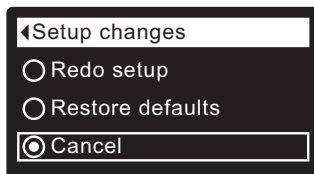

FIG. 103
7. Press the SELECT (O) button to display the Setup changes menu (See Figure 103).
8. If the desired option already has a dot next to it (See Figure 103), go to Step 9. Otherwise, press the DOWN (▼) or UP (▲) buttons to scroll to the desired option, then press SELECT (O) to choose it.